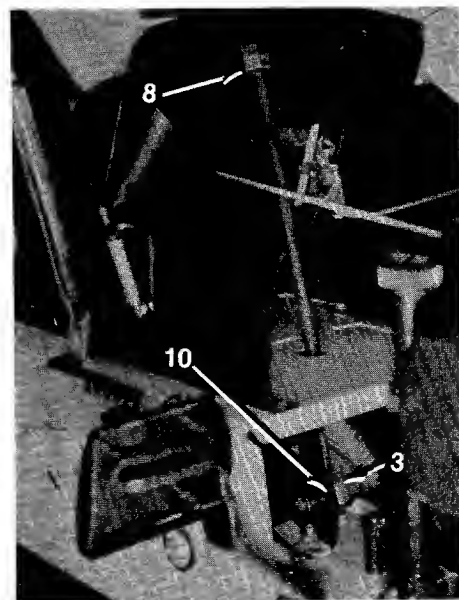

FIGURE 18
3. Steering Gears. Lubricate the two gears with automotive multi-purpose grease once a season. See figure 18.
8. Steering Column Bearings (2). Oil once a season with SAE 30 oil. See figure 18.
10. Steering Shaft Bearings (2). Requires no lubrication. See figure 18.